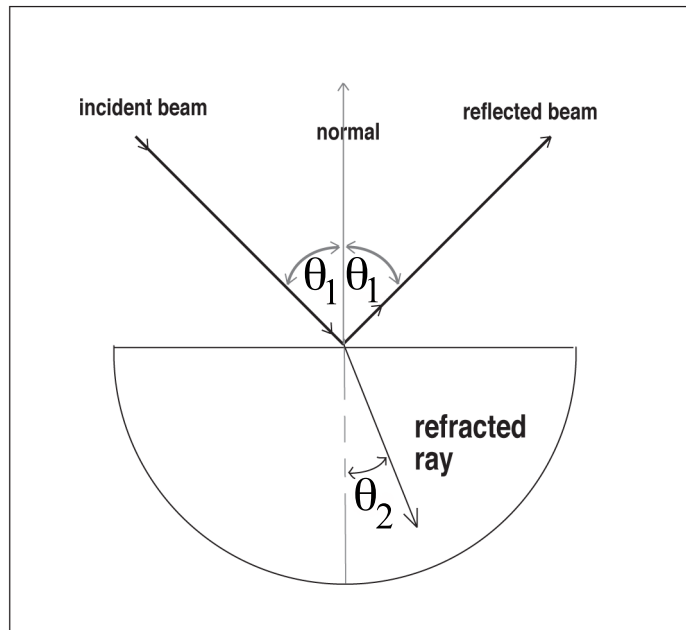

Figure 1
- Place the half circle of transparent acrylic on the half-circle shape drawn on the Ray Table. Turn the Ray Table such that the light beam enters the acrylic in the center of the semicircle, as in Fig. 1.